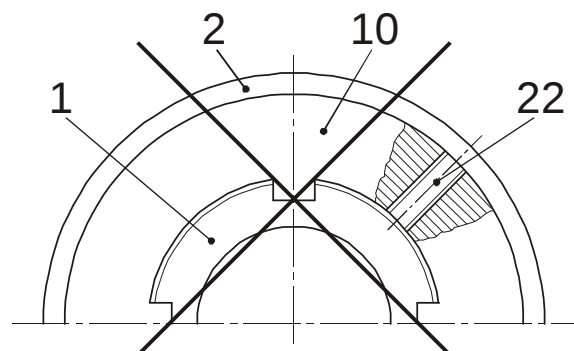

Fig. 24
After the torque has been set, the adjusting nut has to be secured via a set screw which is to be screwed in radially into one groove of the hub. A clamping onto the thread is not permissible, as shown in Fig. 24.
The adjusting has to be secured via a set screw which is to be screwed in radially into one groove of the hub. A clamping onto the thread is not permissible, as shown in Fig. 24.
After the torque has been set, the adjusting nut has to be secured via a set screw (23) which is to be screwed in radially into one groove of the hub. A clamping onto the thread is not permissible, as shown in Fig. 24.